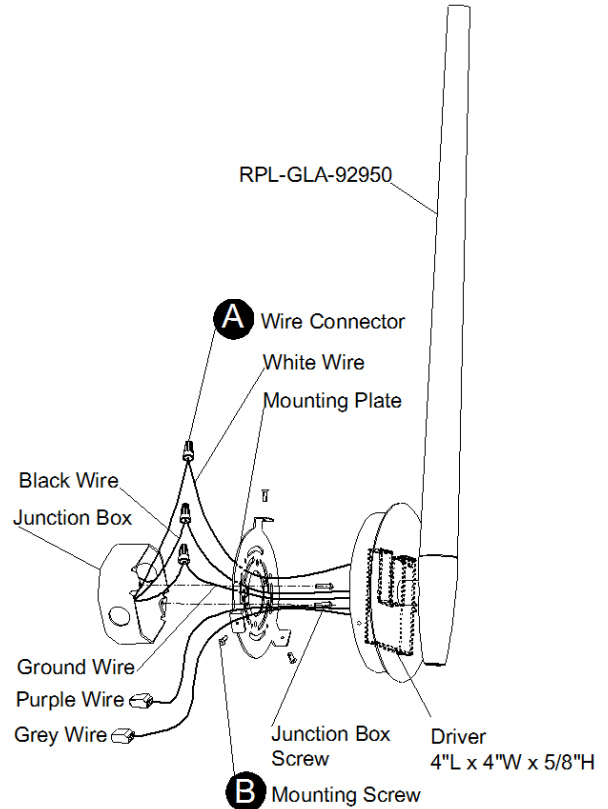

Fig. 2 Wiring
CONNECTING THE WIRES (Fig. 2)
5. Connect the driver's input wires to junction box wires as shown (Fig. 2). Make sure that all wire connectors (A) are secure. If your outlet box has a green or bare copper ground wire, connect the fixture's ground wire directly to the back plate using the green screw provided. After wires are connected, tuck them carefully inside the junction box.